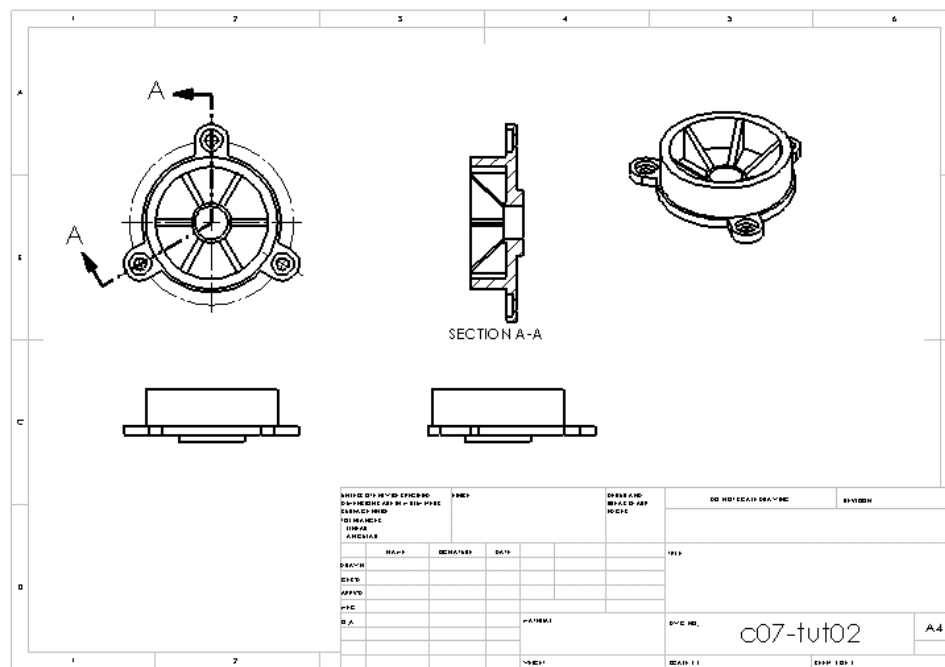

Figure 12-49 Sheet after generating the aligned section view
8. Move the cursor to the right of the top view and place the aligned section view. The **Section View PropertyManager** is displayed. Select the **Flip direction** check, if the direction of viewing is not as required. Click anywhere on the sheet to exit the **PropertyManager**. The sheet, after generating the aligned section view, is shown in Figure 12-49.